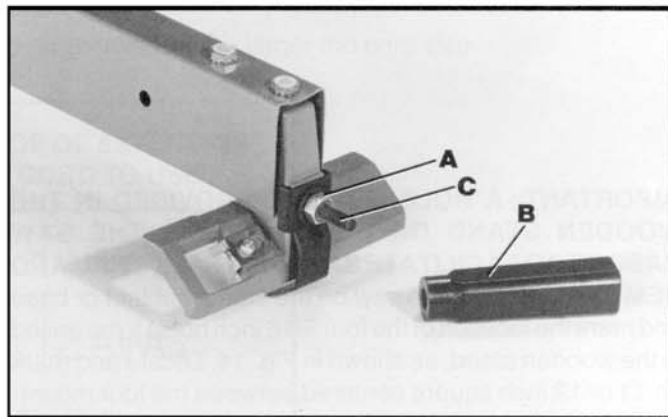

Fig. 9
1. Remove and discard shipping nut (A) Fig. 9, from threaded rod (C) on front end of fence clamp bracket and thread fence locking handle (B) onto threaded rod (C).